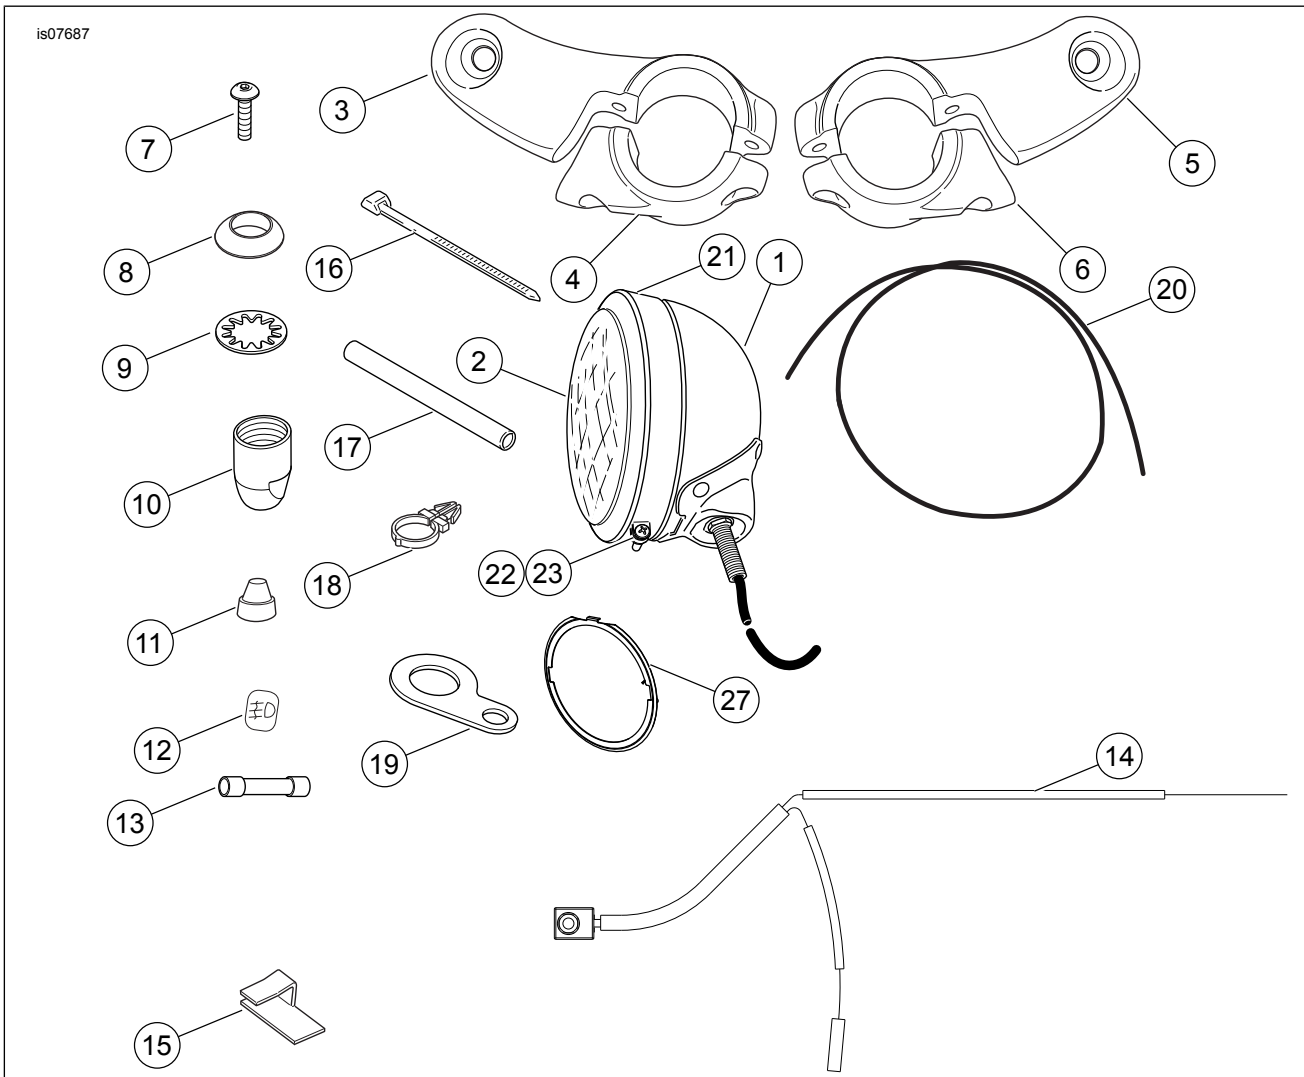

Figure 7. Service Parts: Auxiliary Light Kit
See Figure 7 and Table 1.
7. See Figure 7. Locate the outer trim ring (24), inner nesting ring (27), screw (25), and nut (26).
13. See Figure 7 and the connector appendix of the service manual. Install the white wire socket terminal of harness (14) into the empty cavity of the headlamp connector socket housing.
If the boot becomes worn or damaged, or is lost, replace the boot to prevent moisture from entering the switch. See Figure 7 (item 11).
16. See Figure 7. Obtain the switch mounting bracket (19) from the kit. Remove the boot from the lamp switch, and install the switch into the bracket. Replace the boot on the switch.
18. See Figure 7. Secure the lamp switch leg of the harness to the handlebar using the wire harness retainers (Item 18) as needed. Snap the retainers into the holes in the handlebar.
19. Route the black unterminated wire (1) from the switch past the steering head toward the auxiliary lamps.
26. See Figure 7. Secure the wires to the lower fork steering bracket using the adhesive-backed clips (15) from the kit.